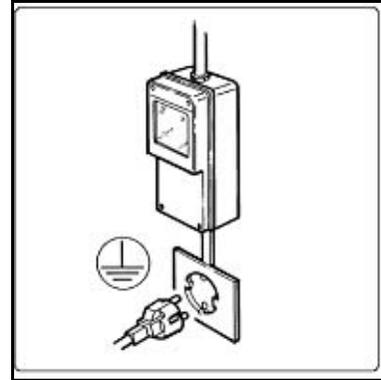

FIGURE 5
8. Plug the units power cord into a dedicated power line with a 15amp rating, see FIGURE 5.